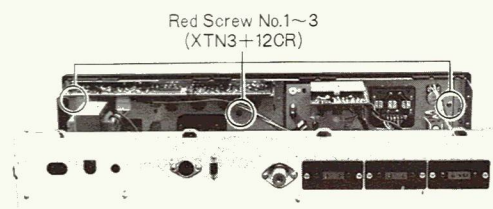

Fig. 17
6. Remove the three (3) red screws (nos. 1~3) for the front panel, as shown in fig. 17.